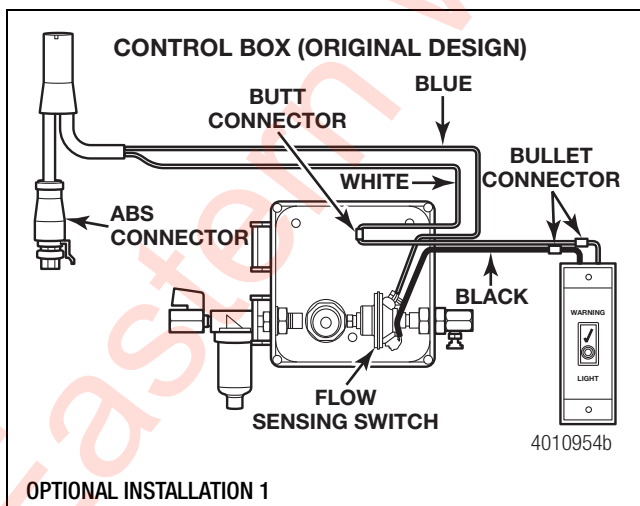
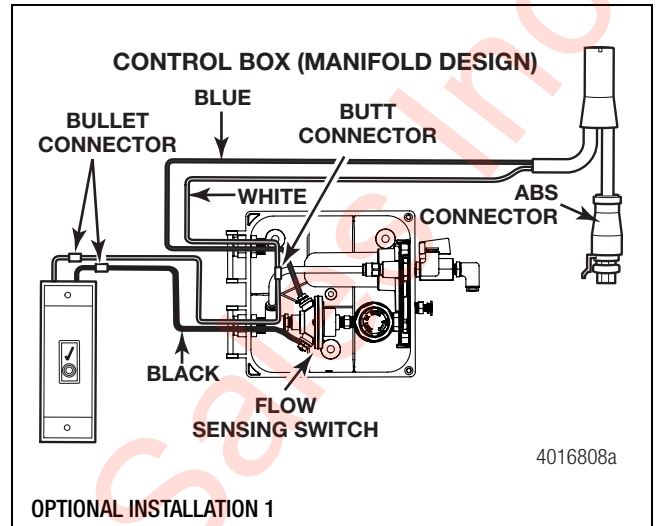

Figure 2.74
Figure 2.75
4. Connect the blue wire from the ABS connector to the flow sensing switch. Connect the black wire from the warning light to the flow sensing switch. Connect the white wire from the warning light to the white wire from the ABS connector. Figure 2.74 and Figure 2.75.